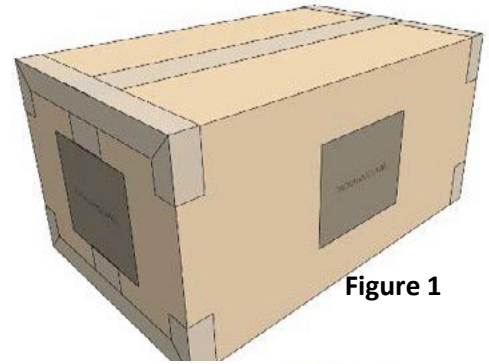

Figure 1
1. All RSC (Regular Slotted Container) master cartons should be taped using the H-Taping Method (reference Figure 1 at right)